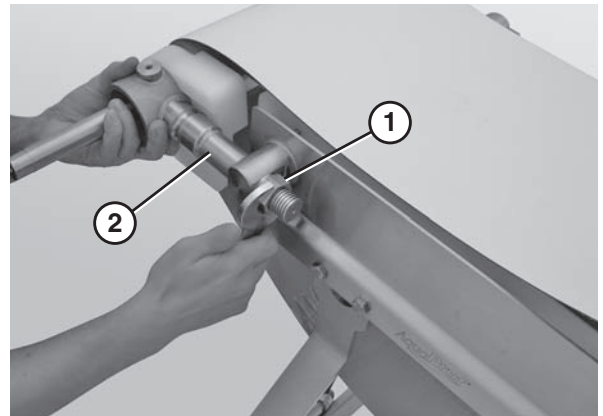

Figure 60
5. Remove the back nut (**Figure 60, item 1**) on both drive tail shafts (**Figure 60, item 2**).